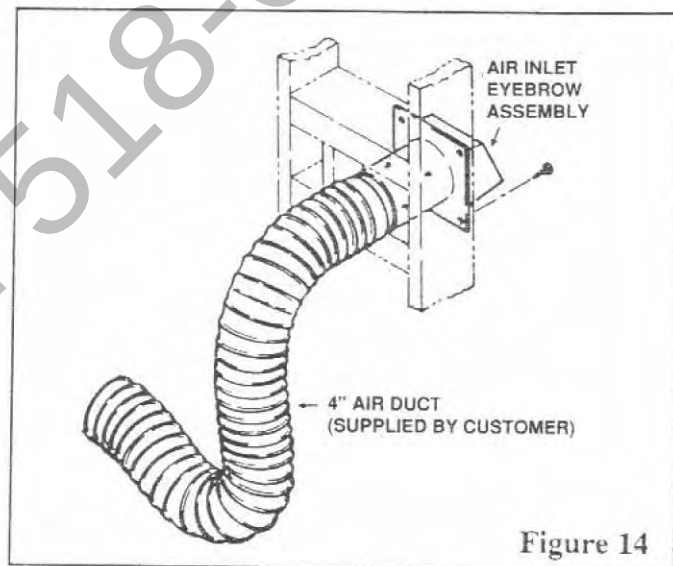

Figure 14
STEP 7: Install the air inlet eyebrow through the wall opening (Figure 14). Push a 4" diameter NON-COMBUSTIBLE Class 0 or Class 1 flexible duct onto the eyebrow.